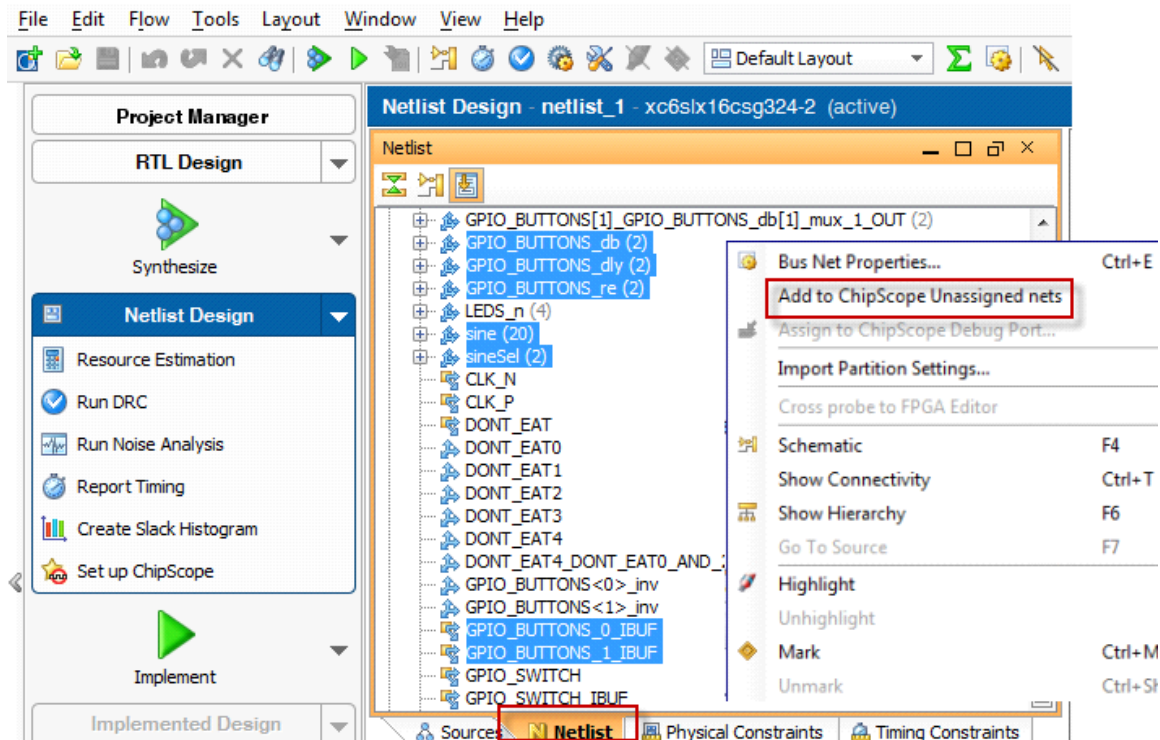

Figure 3: Adding Nets from the Netlist Tab
3. Select the following nets for debugging (also shown in Figure 3):
The steps above are illustrated in Figure 3, page 11.